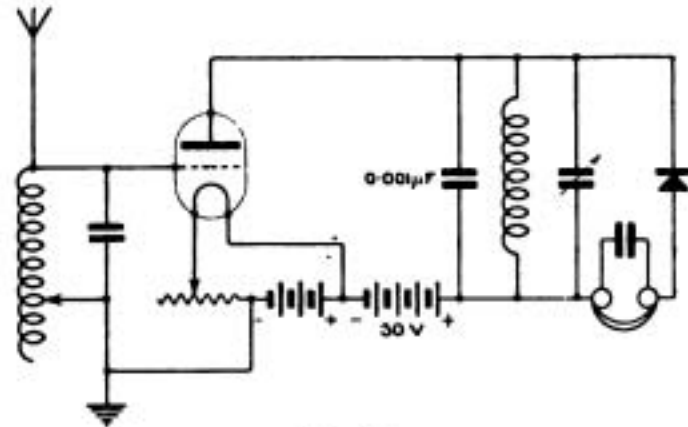

Fig. 2.
J.M.G. (Nottingham). (1) The set is ambitious, and theoretically correct; but will probably keep you busy indefinitely in trying to stop it howling. We should strongly advise you in such a complicated amplifier to avoid tuned either H.F. or L.F. circuits.
(2) It might be used to apply a potential to the first 2 H.F. valves.
(3) Generally speaking, almost immaterial. We have not space to discuss the exceptional cases.
(4) Take a flexible lead from the bottom of the primary of the telephone transformer and arrange to clip it to the plate terminal of the valve required, insulating it from the part of the holder which normally touches the plate.
HON. SEC. (Dartford).—(1) Instrument will do for the type of Fig. 2, page 792, of February 19th, but not much else.
(2) and (3) About 3 oz. of No. 44 for H.R., covered by 8 oz. of No. 32 for the L.R. Core 3" long by $\frac{1}{4}$ " diameter iron wires.
(4) No.
E.H.L.S. (Princetown).—(1) We regret we have no particulars of the inductance of coils of the make you mention, and can therefore not give the wavelength.
(1) A good arrangement is shown in Fig. 2.
(2) V 24 type.
(3) Cut out the fixed condenser, which would be very inefficient. Make former 6" by 12", wound with No. 26; about 250 yds. will be required.
(4) It can only be used as a block condenser across the telephones.